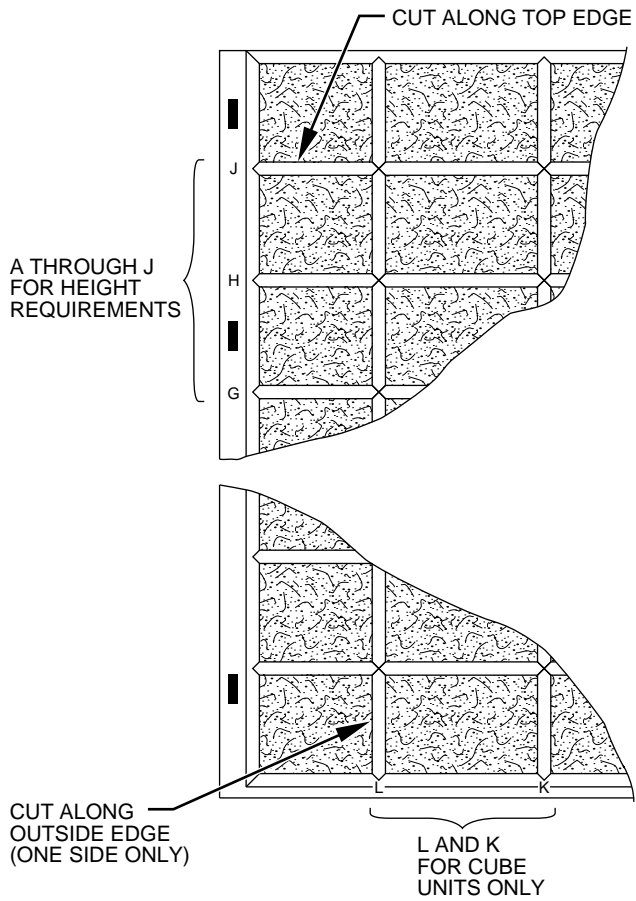

Fig. 2—Location of Letters
1. Measure height of unit and locate matching unit configuration and height in Table 2. Note letter in Top Rib column. (See Fig. 2.)